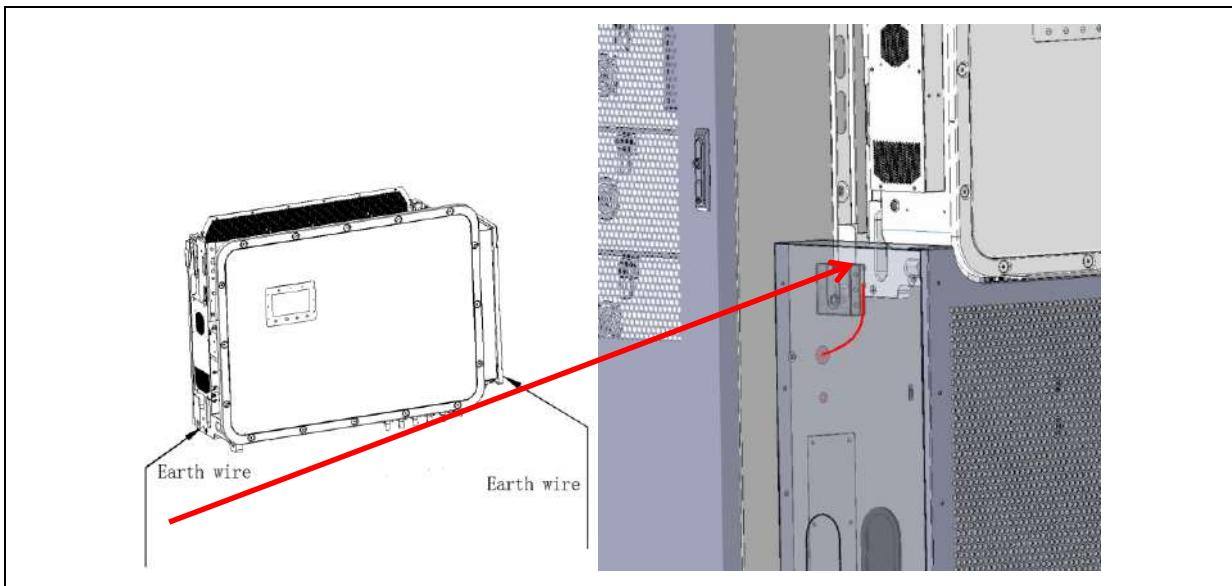

Figure 5-15 Grounding Cable Connection Diagram
1. As shown in Figure 5-15, on the right is the grounding copper bar of the battery cabinet. The holes in the copper bar are M8. SolisStorage will provide two grounding cables. Connect the two grounding cables from the left and right shells of the hybrid inverter to the grounding copper bar.